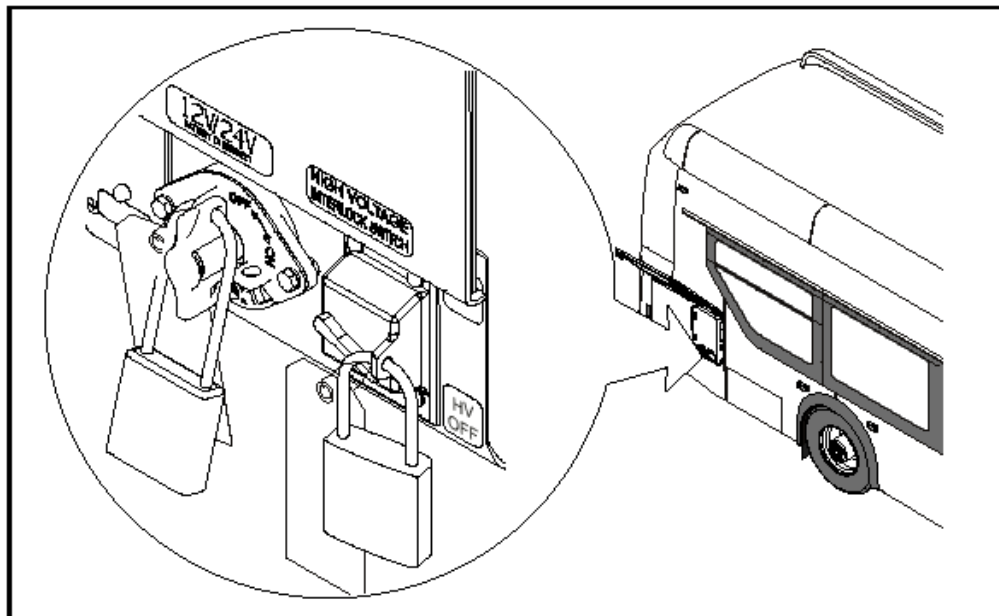

Figure 1 - Lockout tagout location reference.
3. Lock and tag the electrical system of the bus out and retain the key. See Figure 1.